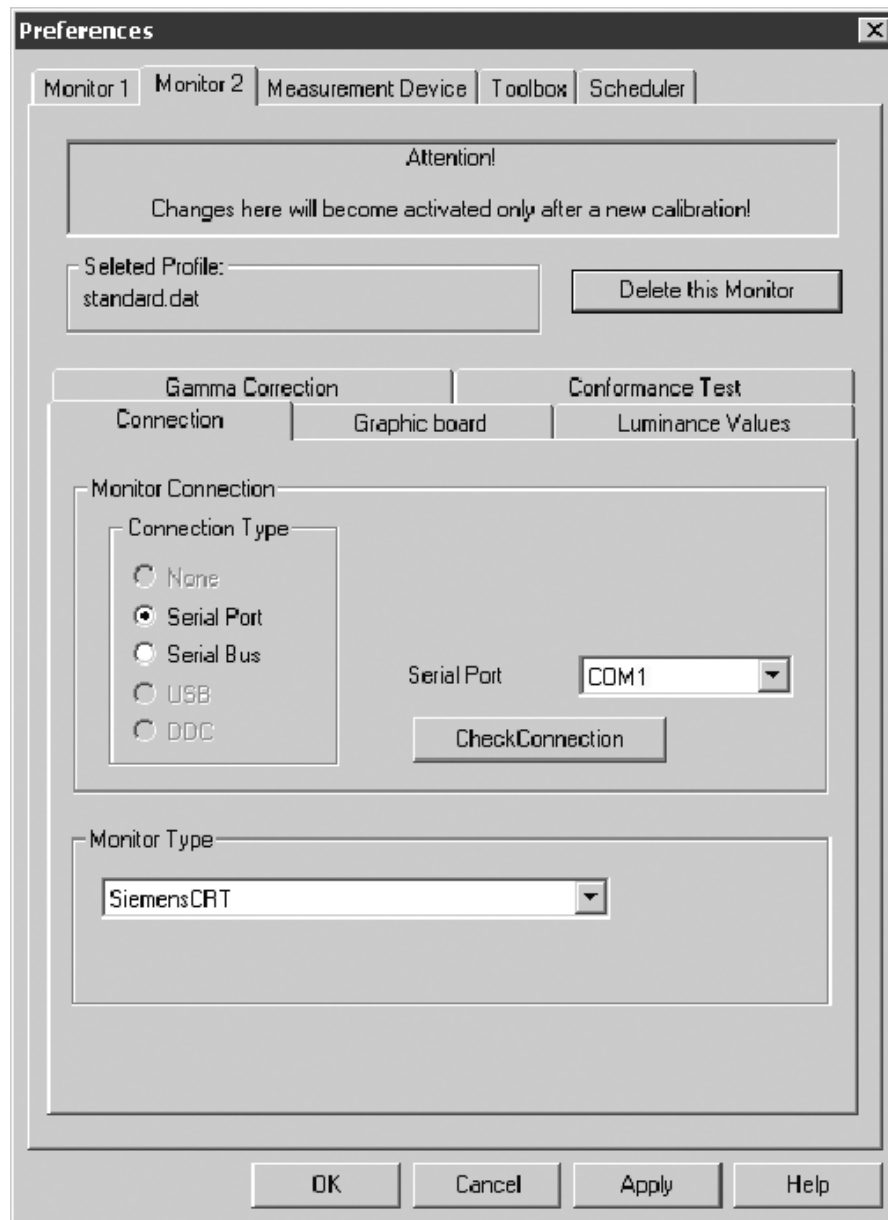

Fig. 12 Preferences of Monitor 2
1. Lead the cables through the tilt & swivel base and the back cover (see cabling of other monitor types, Figure 12). To attach the connection box to the operating panel, use the full length of the cable stored in the connection box.